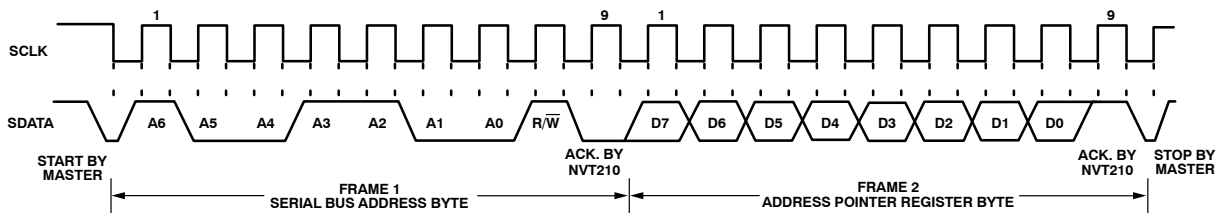

Figure 17. Reading from a Previously Selected Register
- A read operation is then performed consisting of the serial bus address, R/W bit set to 1, followed by the data byte read from the data register see Figure 17.